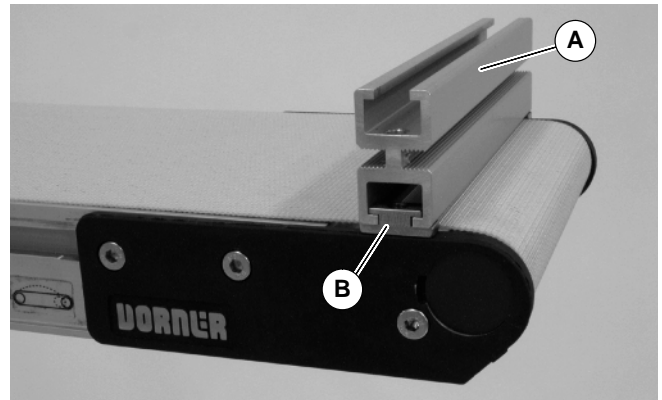

Figure 2
2. Insert spacer (B of Figure 2) in both ends of end stop (A).